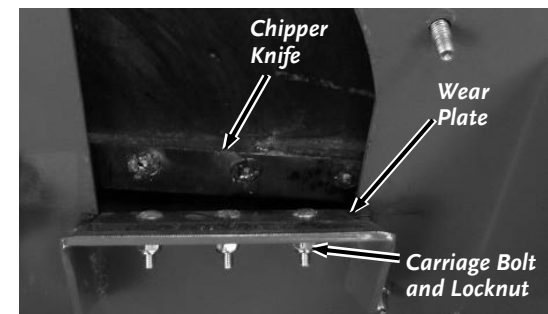

Figure 42
1. Remove the three Locknuts and Carriage Bolts that attach the Wear Plate to the Chipper Assembly and then remove the Wear Plate (**Figure 42**).